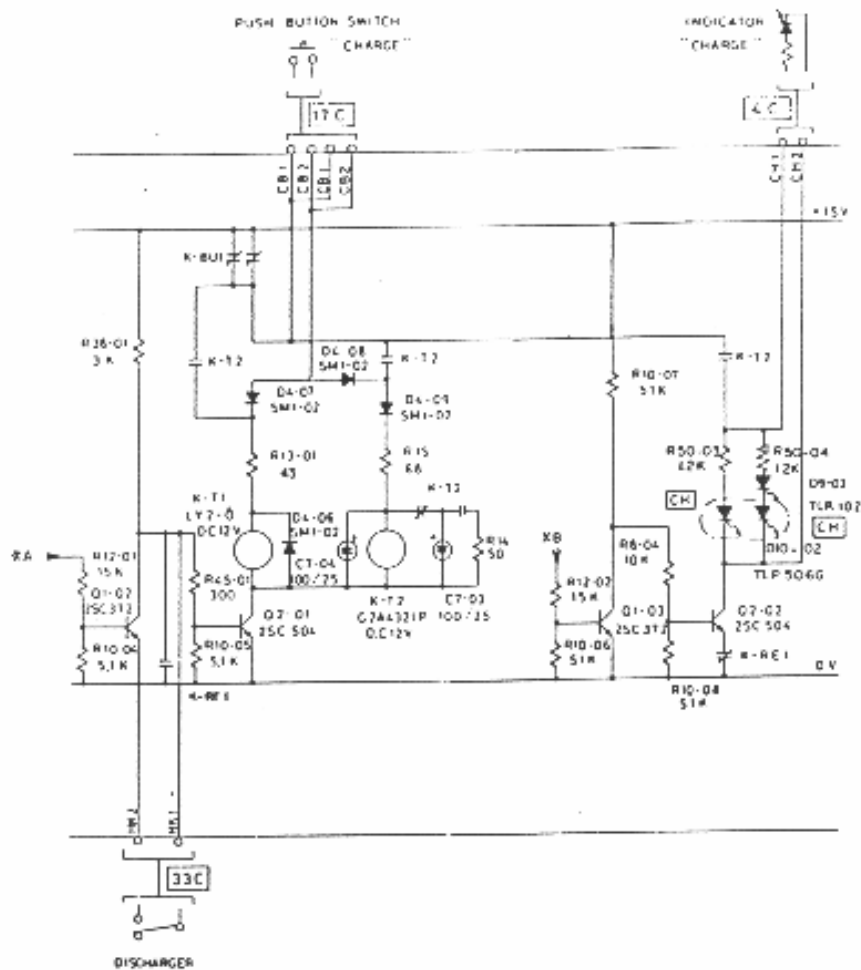

Fig. 3-3-1
- (1) Figure 3-3-1 is the connection diagram of this circuit.
(4) By charging the high tension condenser, when the voltage exceeds the preset value, the output voltage of M3-06 becomes +14 V, which is applied to \*B position by way of diode D4-11. (This circuit is connected to \*B position in Fig. 3-3-1.) And, when transistor Q1-03 in Fig. 3-3-1 is switched on, transistor Q2-02
- (5) When the voltage charged in high tension condenser is discharged by resistors connected in parallel with it, the voltage at input terminal 3 of M3-06 also goes down gradually. And, when its voltage becomes lower than the input terminal 2 voltage, the output voltage of M3-06 becomes -14 V and the voltage at \*B disappears. Thereby, Q1-03 and Q2-02 in Fig. 3-3-1 are cut off and switched on respectively, so that photocoupler [Cf] is turned on. This starts charging again.
When the voltage at input terminal 3 of M3-04 exceeds that at terminal 2, a +14 V voltage appears at output terminal 6. Consequently, this voltage is applied to \*A position through diode D4-04. (This circuit is joined to \*A in Fig. 3-3-1.) As transistor Q1-02 in Fig. 3-3-1 is switched on, transistor Q2-01 is cut off, making relay K-T1 inactive. This stops charging.